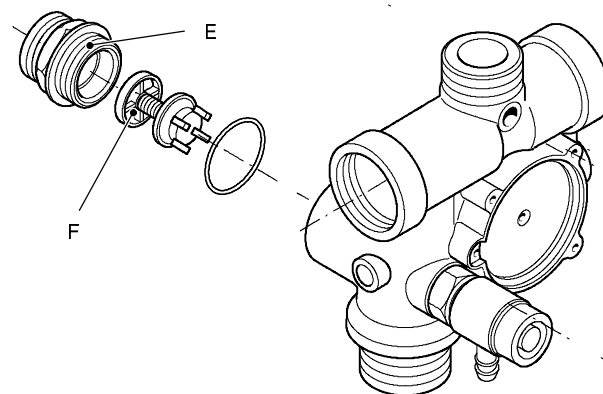

fig. 71
- 5 Unscrew the connector E and remove the by-pass valve F (fig. 71).
- 6 Reassemble the by-pass valve as illustrated in fig. 71 and proceeding in reverse order.